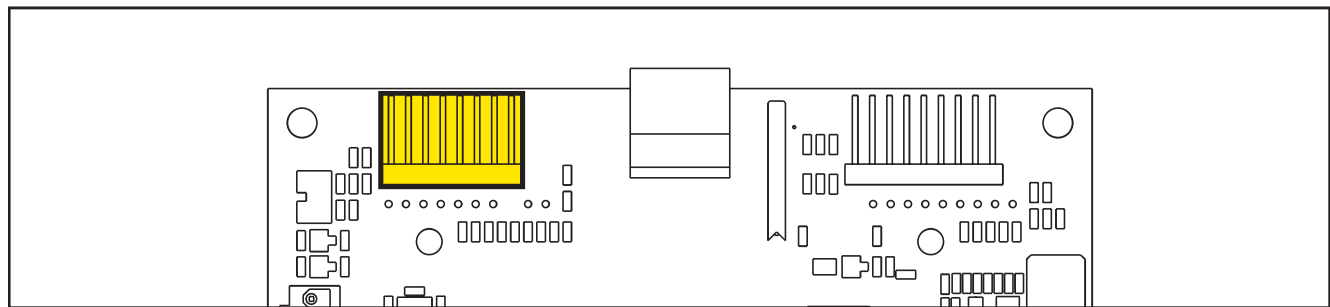

Figure 31:
**(Figure 31) J3: FCI DUFLEX (2.54 pitch) 8-way, male pins**